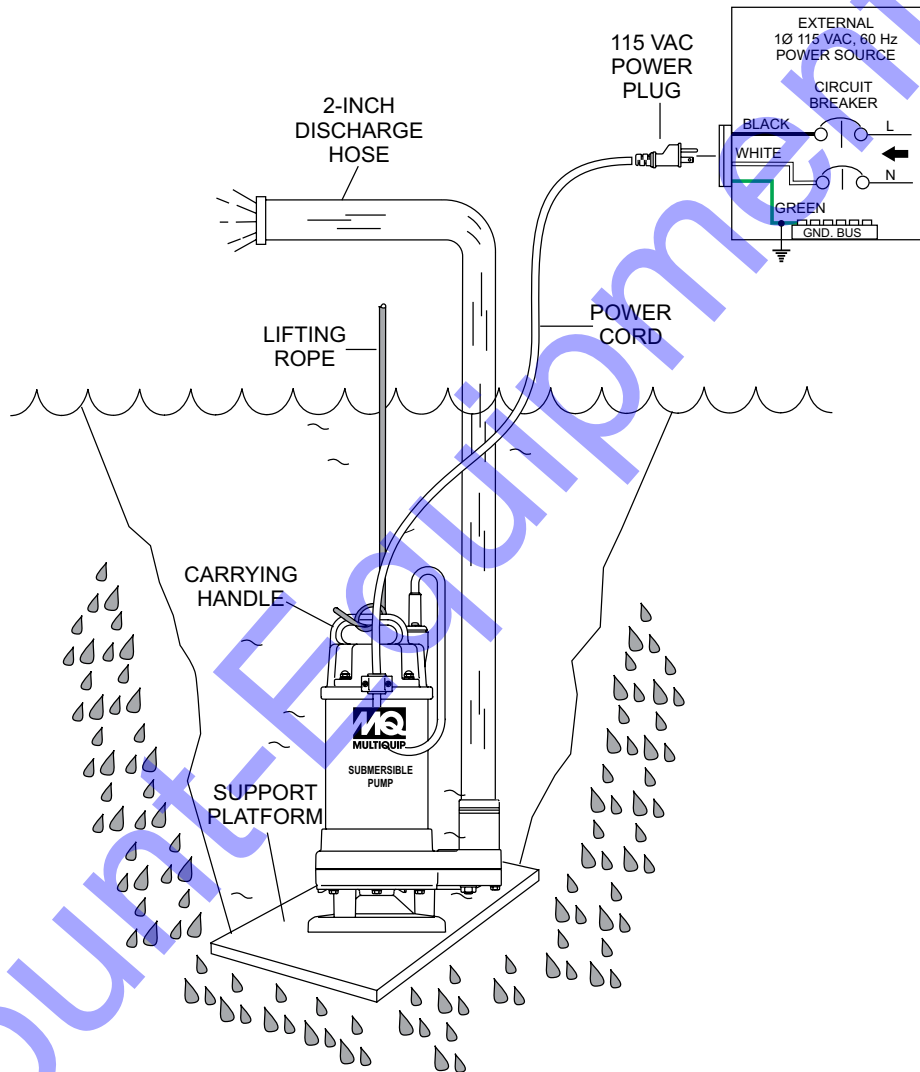
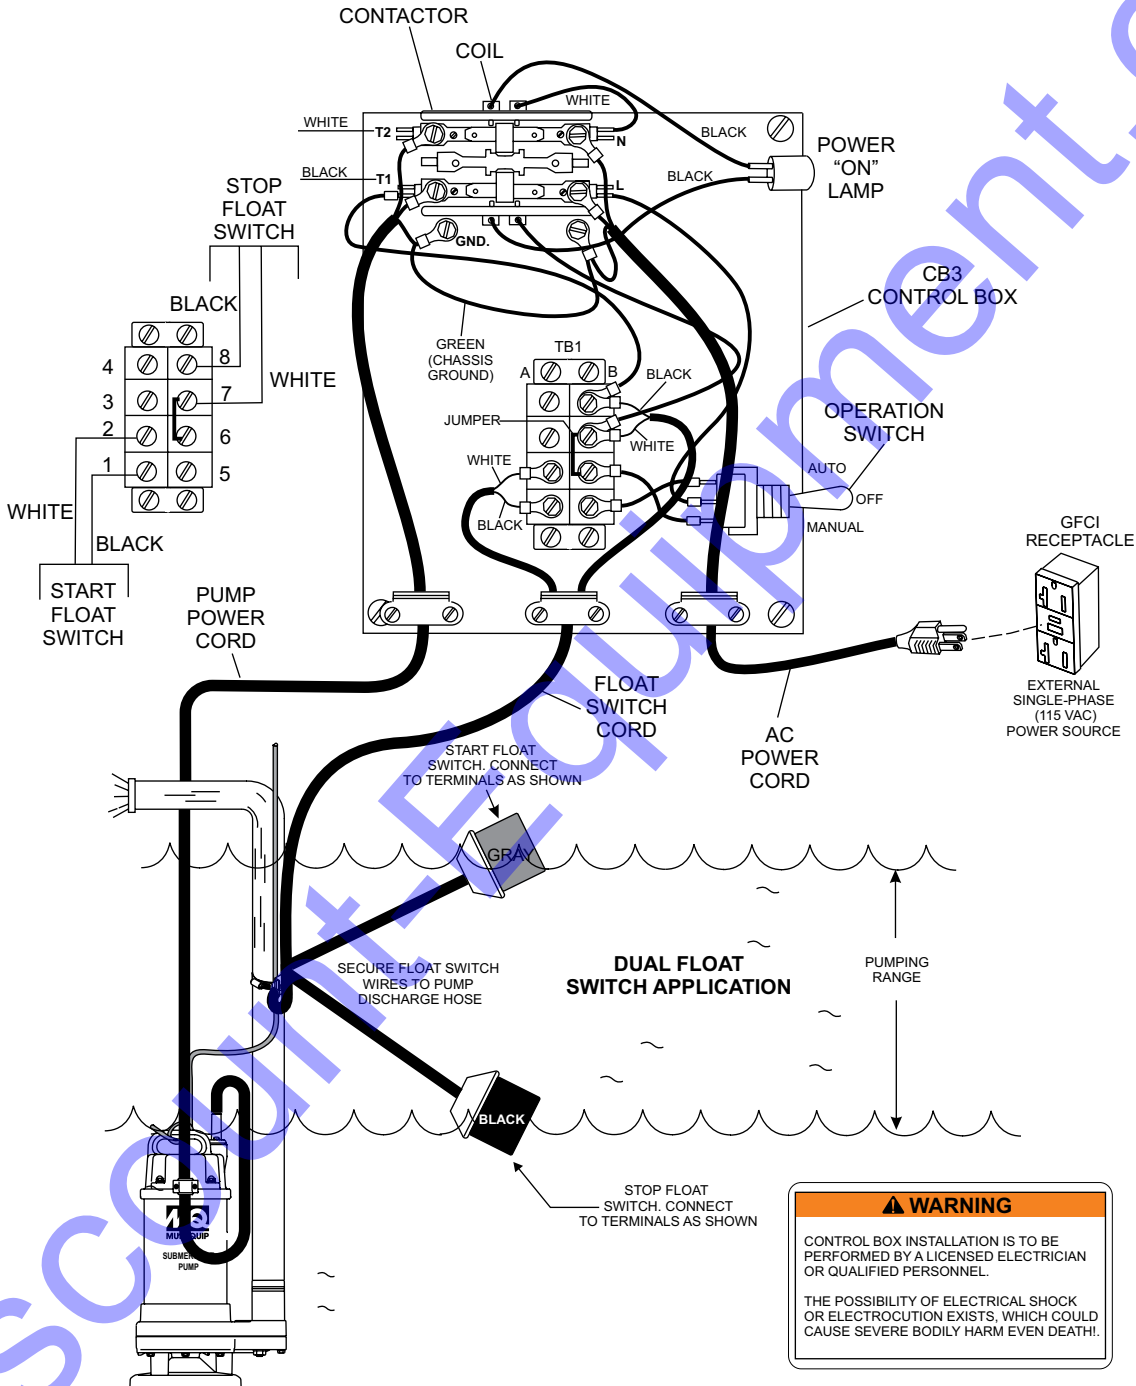

Figure 4. Direct Power Application.
Figure 10. CB3 Control Box Dual Float Switch Application Diagram
The CX400/PX400 submersible pumps can be configured to operate by direct power (Figure 4) or connected to a control box (Figure 10) utilizing float switches. When the pump is connected directly to a 1Ø, 115 VAC, 60 Hz power source, the pump will operate soon as power is applied. It is suggested that a quick disconnect switch be installed as a means of turning the power on and off.
For special remote pumping applications of the submersible pump, a control box (Model CB3) is required. This water resistant control box (Figure 10) provides watertight housing and glands to prevent water from leaking into the box, and a float switch interface. The CB3 control box will require the use of *two* SW-1WOPA float switches, no plug, bare wires for direct connection to the control box. Reference Figure 23 for a schematic representation of the control box.
1. Remove the float switch input connector housing, then route the float switch wires through the cable gland on the control box. Attach the wires of the float switch to the terminal block as indicated by Table 5 and Figure 10.
3. Connect the AC input power cord to the contactor located inside the control box as shown in Figure 10, and Table 6.
4. Connect pump power cord to the contactor as shown in Figure 10, and Table 7.